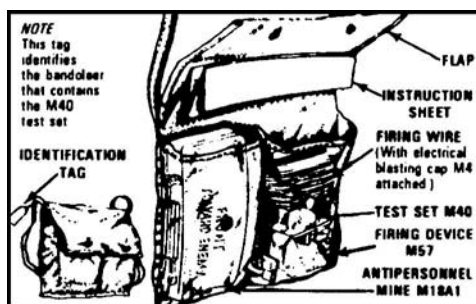

Figure 1. Components of the M18A1 Claymore mine.
1. Inventory the M18A1 claymore mine bandoleer, accounting for all accessories in the bandoleer (Figure 1).